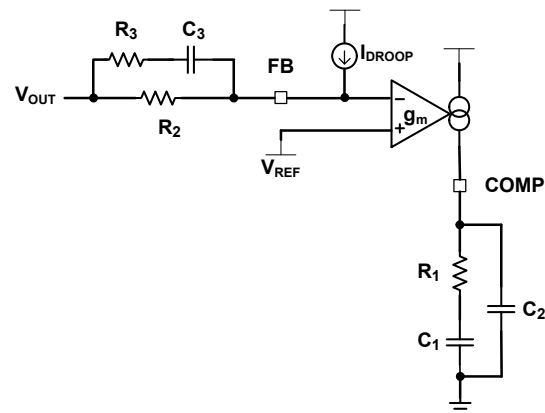

FIGURE 3. COMPENSATION ADJUSTMENT
11. Using a VRTT, load the part with a transient from 1A to  $I_{CCmax}$ , at a 300Hz rep rate, and monitor  $V_{OUT}$  on the scope. Trigger on the falling edge of  $V_{OUT}$  and adjust the compensation components as needed to fine tune the transient response. (See Figure 3)